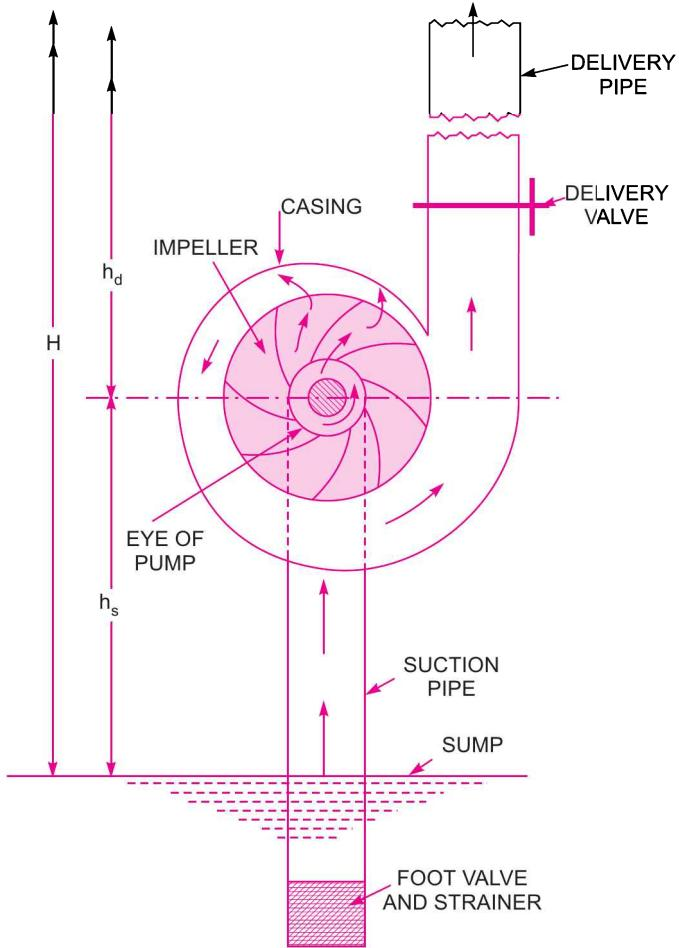

Fig. 19.1 Main parts of a centrifugal pump.
All the main parts of the centrifugal pump are shown in Fig. 19.1.
- (a) Volute casing as shown in Fig. 19.1.
(a) Volute Casing. Fig 19.1 shows the volute casing, which surrounds the impeller. It is of spiral type in which area of flow increases gradually. The increase in area of flow decreases the velocity of flow. The decrease in velocity increases the pressure of the water flowing through the casing. It has been observed that in case of volute casing, the efficiency of the pump increases slightly as a large amount of energy is lost due to the formation of eddies in this type of casing.
1. Suction Head (h_s). It is the vertical height of the centre line of the centrifugal pump above the water surface in the tank or pump from which water is to be lifted as shown in Fig. 19.1. This height is also called suction lift and is denoted by ' h_s '.